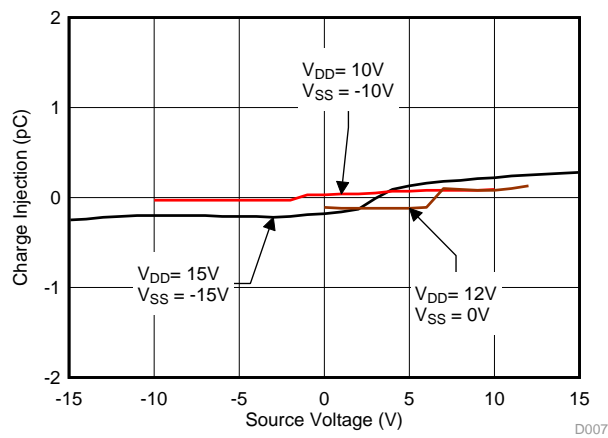

图 32. Charge Injection vs Source Voltage
The TMUX6119 utilizes special charge-injection cancellation circuitry that reduces the source (SA or SB)-to-drain (D) charge injection to as low as 0.19 pC at $V_S = 0$ V, as shown in 图 32.